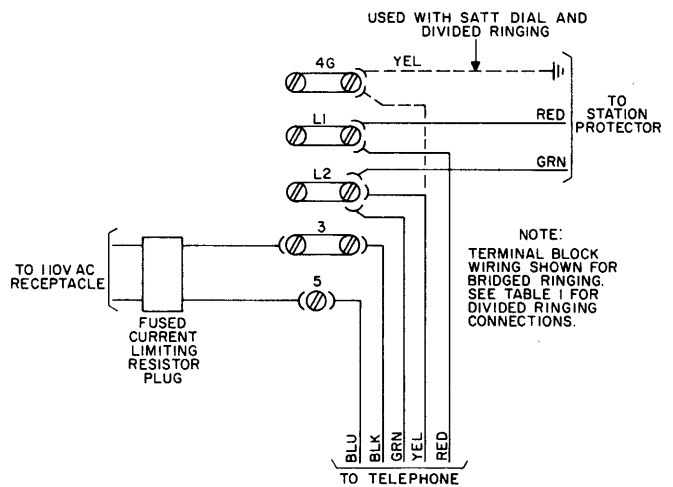

Figure 2. Terminal Block Connections.
- (1) When telephone is equipped with ringer, use Table 1 and Figure 2.
- (2) When telephone is to be used with a Type 33 ringer unit, use connection instructions supplied with ringer unit.